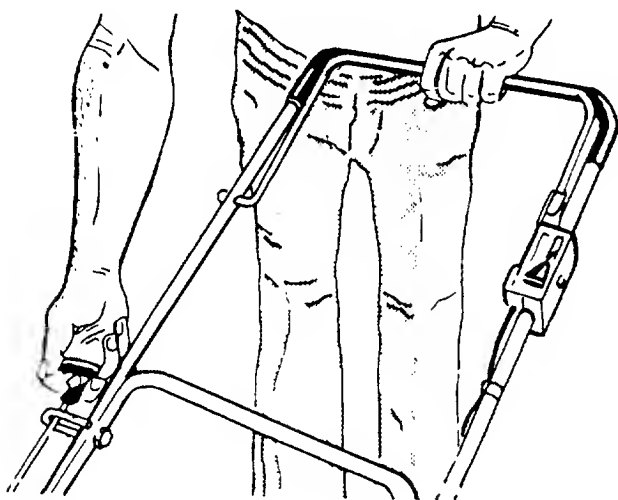

FIGURE 22.
5. Standing behind the unit, depress the blade control handle and hold it against the upper handle as shown. See figure 22.